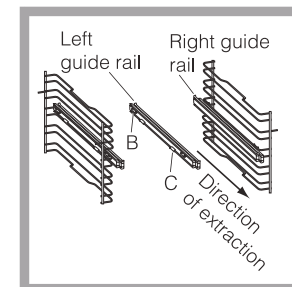

Fig 1.
- › Choose which shelf to use with the telescopic runner. Pay attention to the direction in which the runner is to be extracted, position joint 'B' and joint 'C' on the frame (see Fig.1).